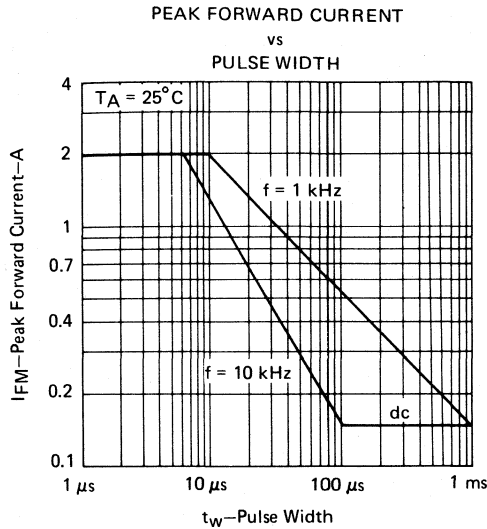

FIGURE 1
2. This value applies for tW ≤ 10 μs, f ≤ 1 kHz. See Figure 1.